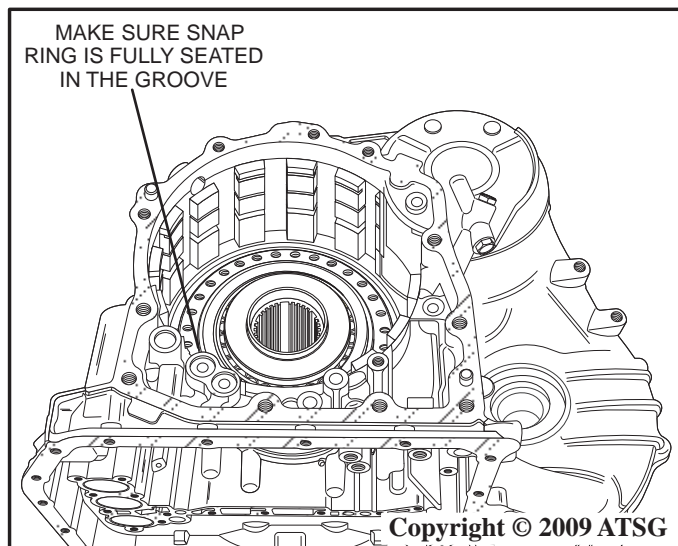

Figure 149
10. Make sure snap ring is fully seated into the groove as shown in Figure 149.